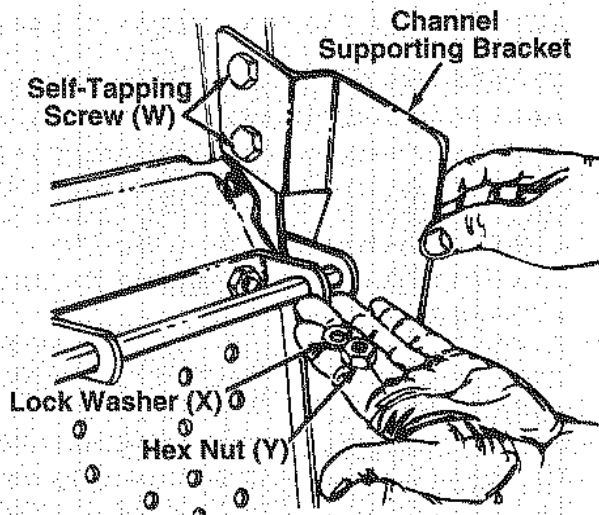

FIGURE 7.
5. Secure front of the channel supporting brackets to the tractor by placing self-tapping screws (W) through the channel supporting brackets, frame and engine pulley belt guard. Secure with lock washers (X) and hex nuts (Y). Tighten securely. See figure 7.